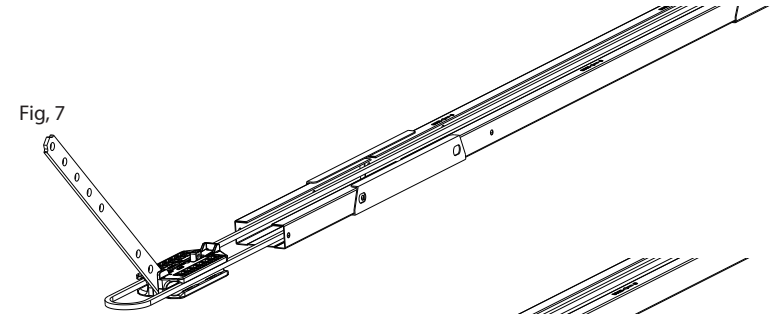

Fig. 7
10. At the door end of the rail, slide the carriage back into the rail. Make sure the door arrow points toward the door. Fig. 7